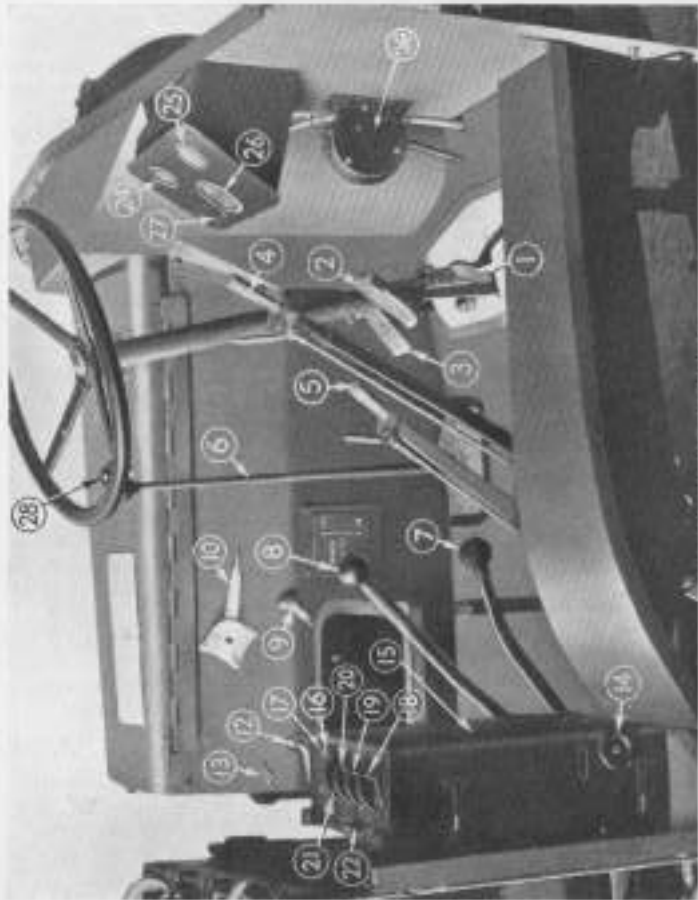

Fig. 2. Driver's Controls.
(The index numbers correspond to those in Fig. 2, unless otherwise stated).
15. Electrical Control Unit. (Units of C.A.V. and Simms' manufacture are fitted, the controls of which are dissimilar. A C.A.V. unit is shown in Fig. 2, while Fig. 40 on page 58, shows a Simms' unit.)
Although illustrated in Fig. 2, this controller is only fitted to the front dash on vehicles having air pressure braking. On other vehicles it is mounted in the chassis frame adjacent to the Servo Motor (see Fig. 31).
- (i) Close the battery cut-out switch (14), Fig. 2.
- (ii) Move the starting switch (21) to the "on" position.
- (iv) Press the starter button (16) firmly.